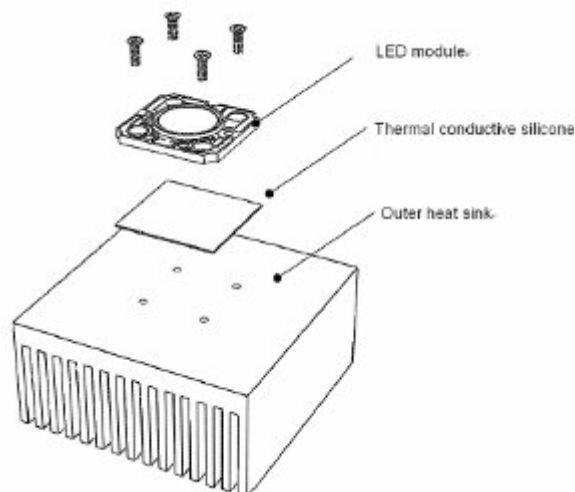

Figure 1
4. Recommended Assembly Method is shown in Figure 1, E-power 07W series products must be used in conjunction with heat-sinking devices and a thin layer of thermal grease should be applied to the bottom surface of the LED source